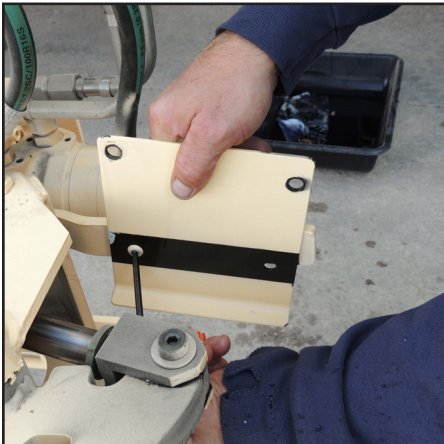

Figure 7
14. Remove and discard the plate that held the hose clamps using a 7/32" Allen wrench (Figure 7). Retain the screws.